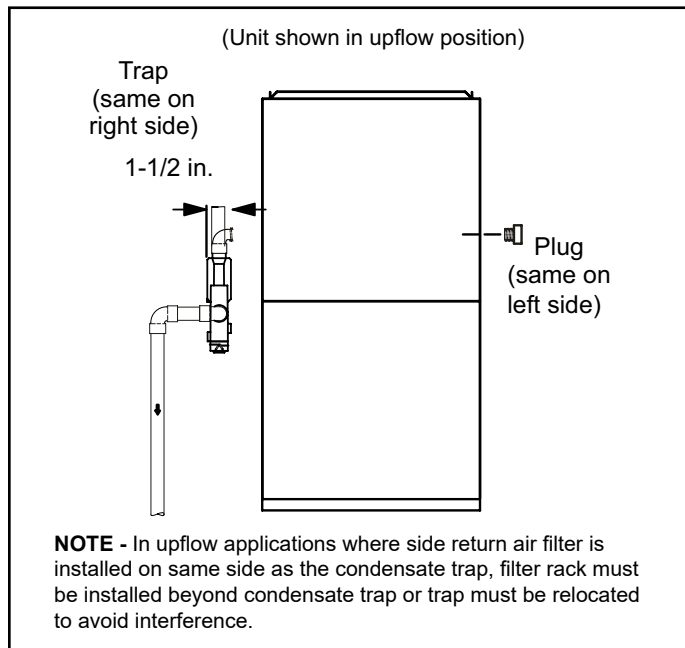
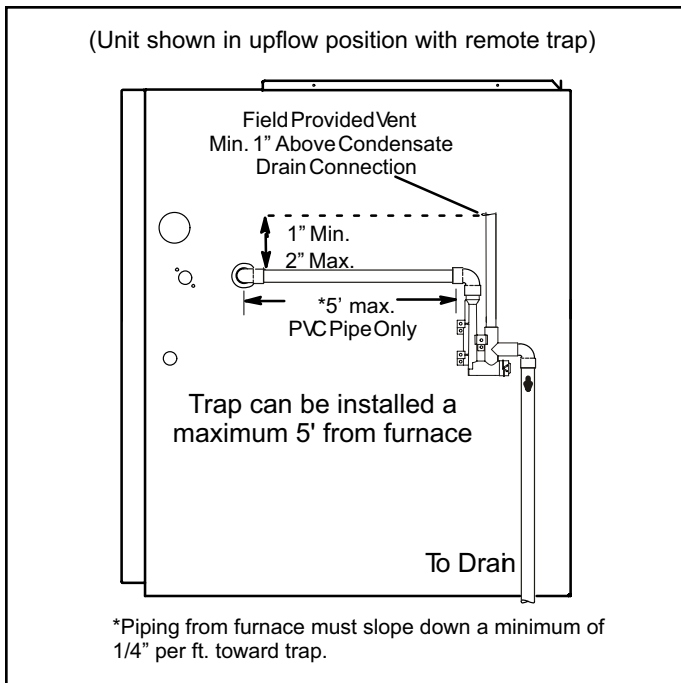
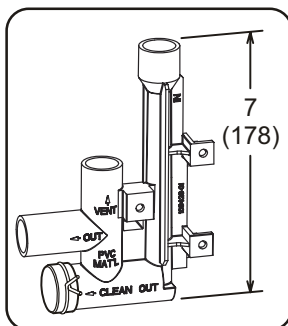

Figure 47. Condensate Trap and Plug Locations
Figure 49. Condensate Trap Locations
Figure 55. Trap / Drain Assembly Using 1/2" PVC or 3/4" PVC
Refer to Figure 47 and Figure 49 for condensate trap locations. Figure 55 shows trap assembly using 1/2" PVC or 3/4" PVC.
2. Use a large flat head screw driver or a 1/2" drive socket extension and remove plug (Figure 47) from the cold end header box at the appropriate location on the side of the unit. Install provided 3/4 NPT street elbow fitting into cold end header box. Use Teflon tape or appropriate pipe dope.
3. Install the cap over the clean out opening at the base of the trap. Secure with clamp. See Figure 55.
4. Install drain trap using appropriate PVC fittings, glue all joints. Glue the provided drain trap as shown in Figure 55. Route the condensate line to an open drain.